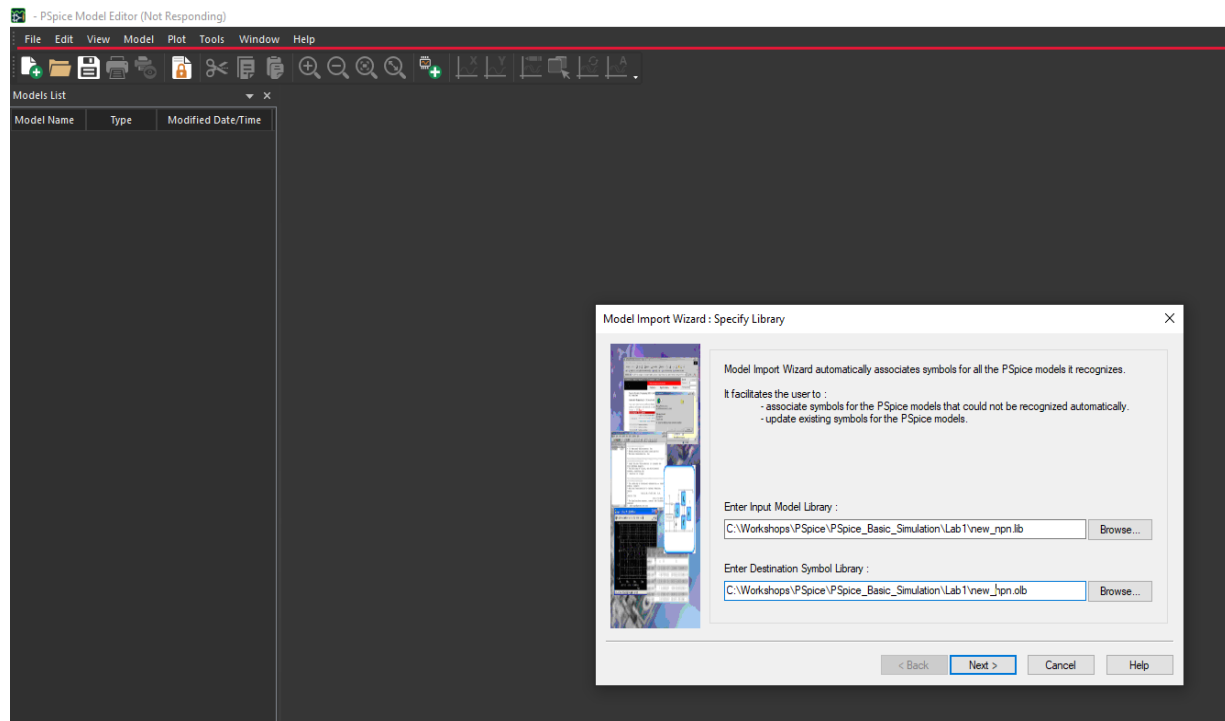

Figure 1-9: PSpice Model Editor and Model Import Wizard
10. In the Model Editor window, start the Model Import Wizard by selecting **File > Model Import Wizard**. The Model Import Wizard opens, as shown in Figure 1-9.